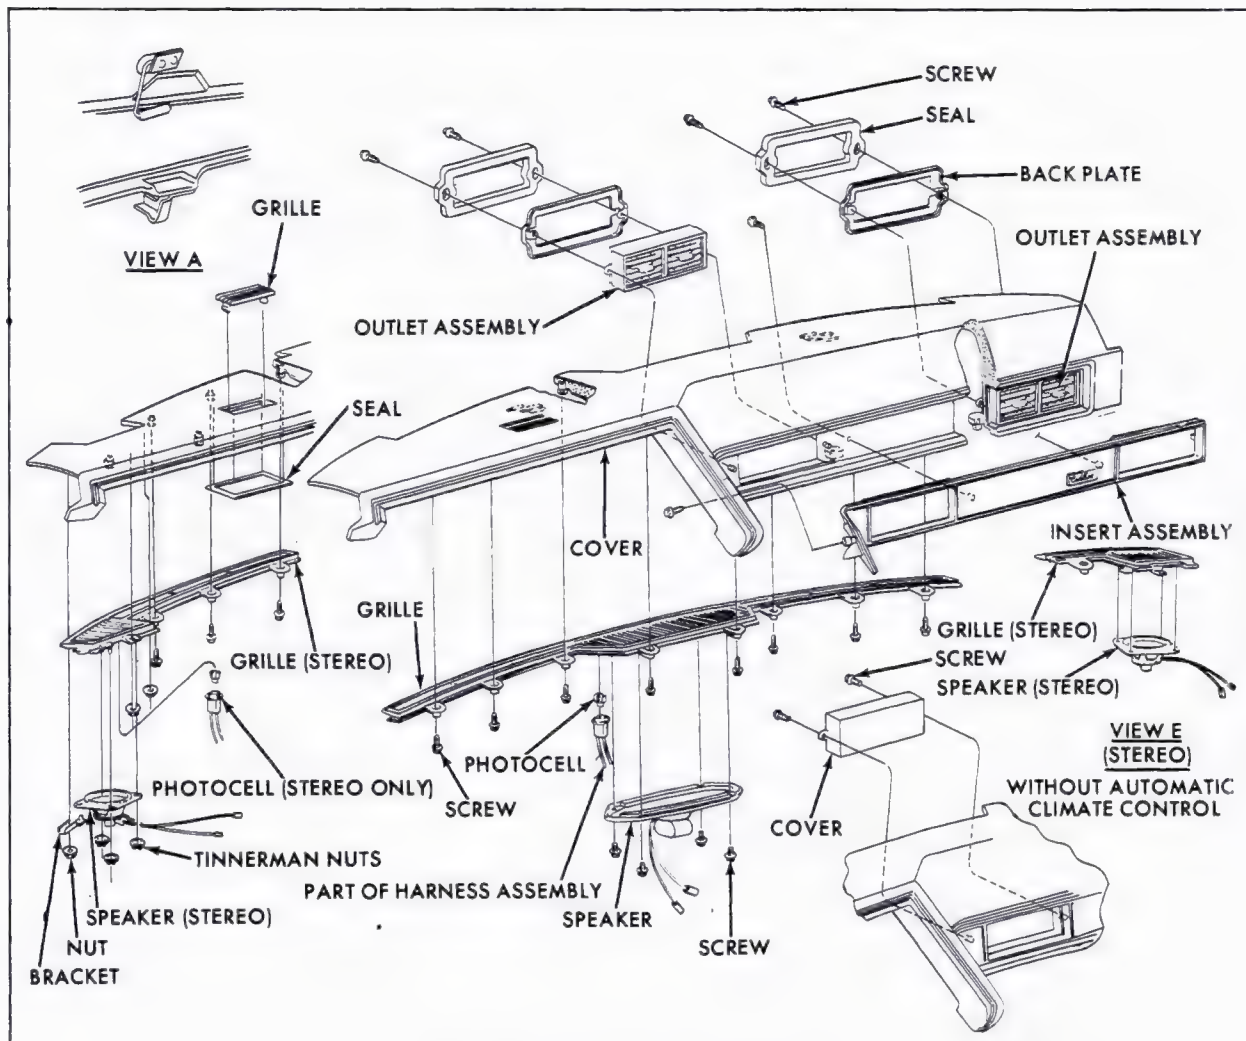

Fig. 12-45 Instrument Panel Top Cover
2. On all but AM/FM Stereo radios, remove four screws securing speaker to grille and remove front speaker, Fig. 12-45.
3. Remove either AM/FM Stereo radio front speaker by removing four Tinnerman nuts securing speaker to speaker grille, Fig. 12-45.
1. On all but AM/FM Stereo radios, position front speaker on instrument panel top cover and grille. Secure with four self-tapping screws, Fig. 12-45.
2. On either AM-FM Stereo radio front speaker, secure speaker to top cover and grille with four Tinnerman nuts, Fig. 12-45.